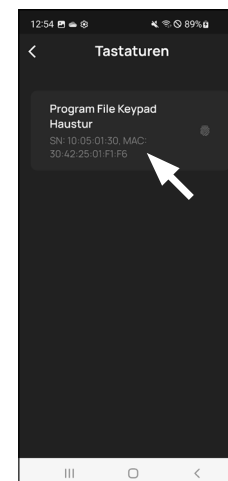

Fig. 7
- 8 Select the required keypad (Fig. 7).